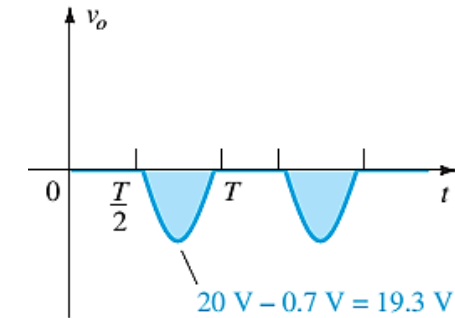

FIG. 2.51
- b. For a silicon diode, the output has the appearance of Fig. 2.51, and